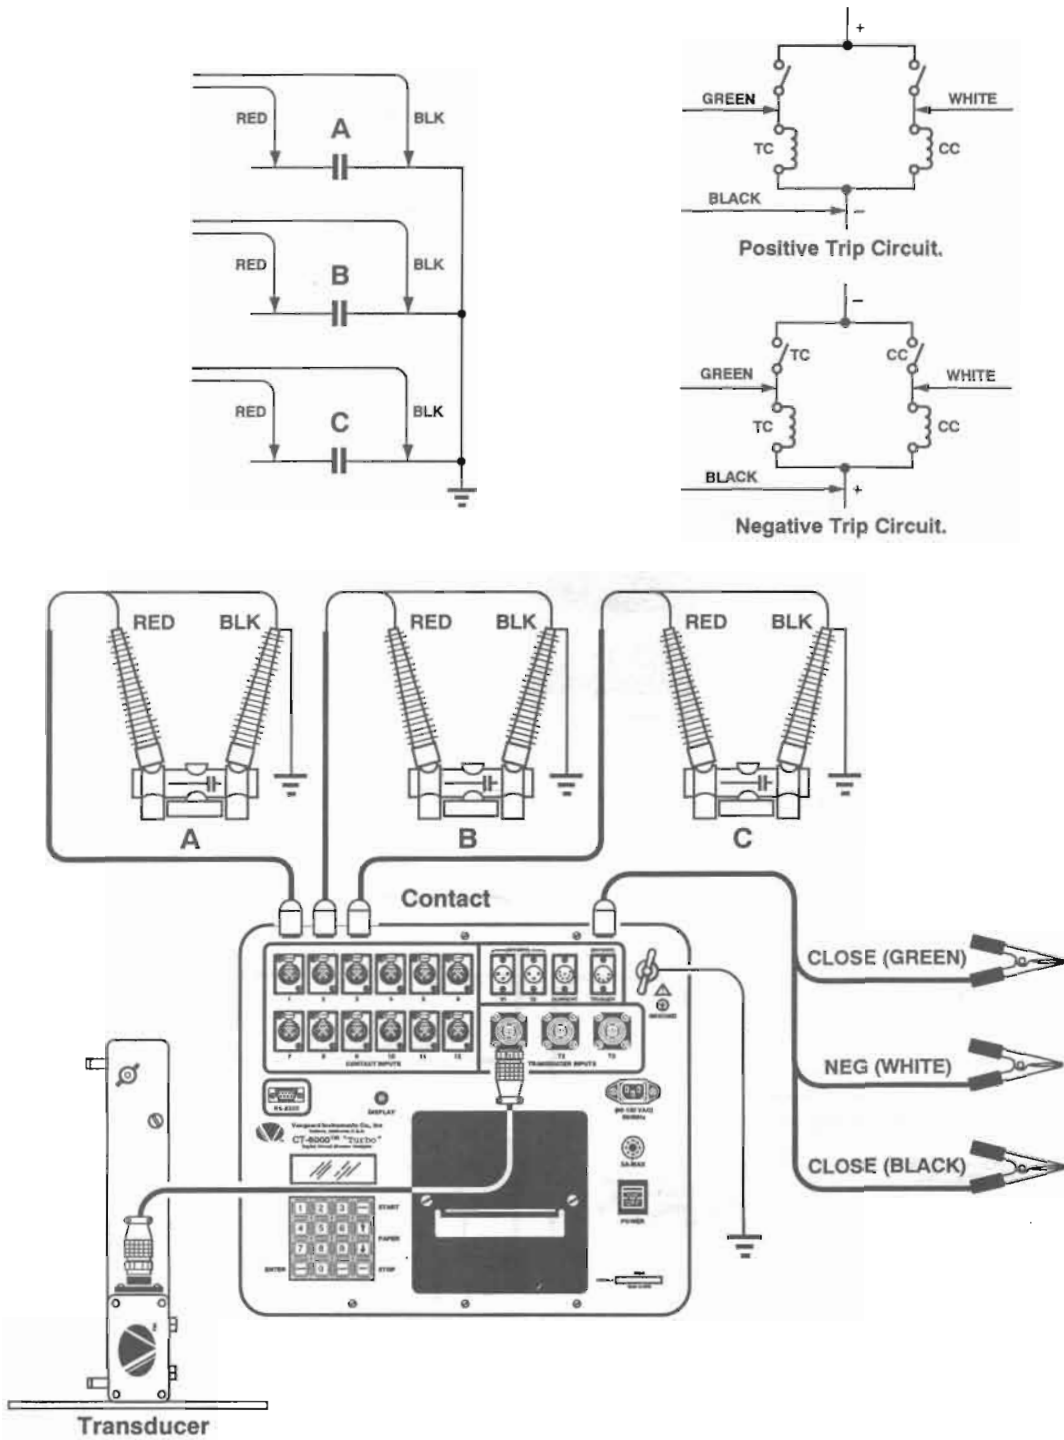
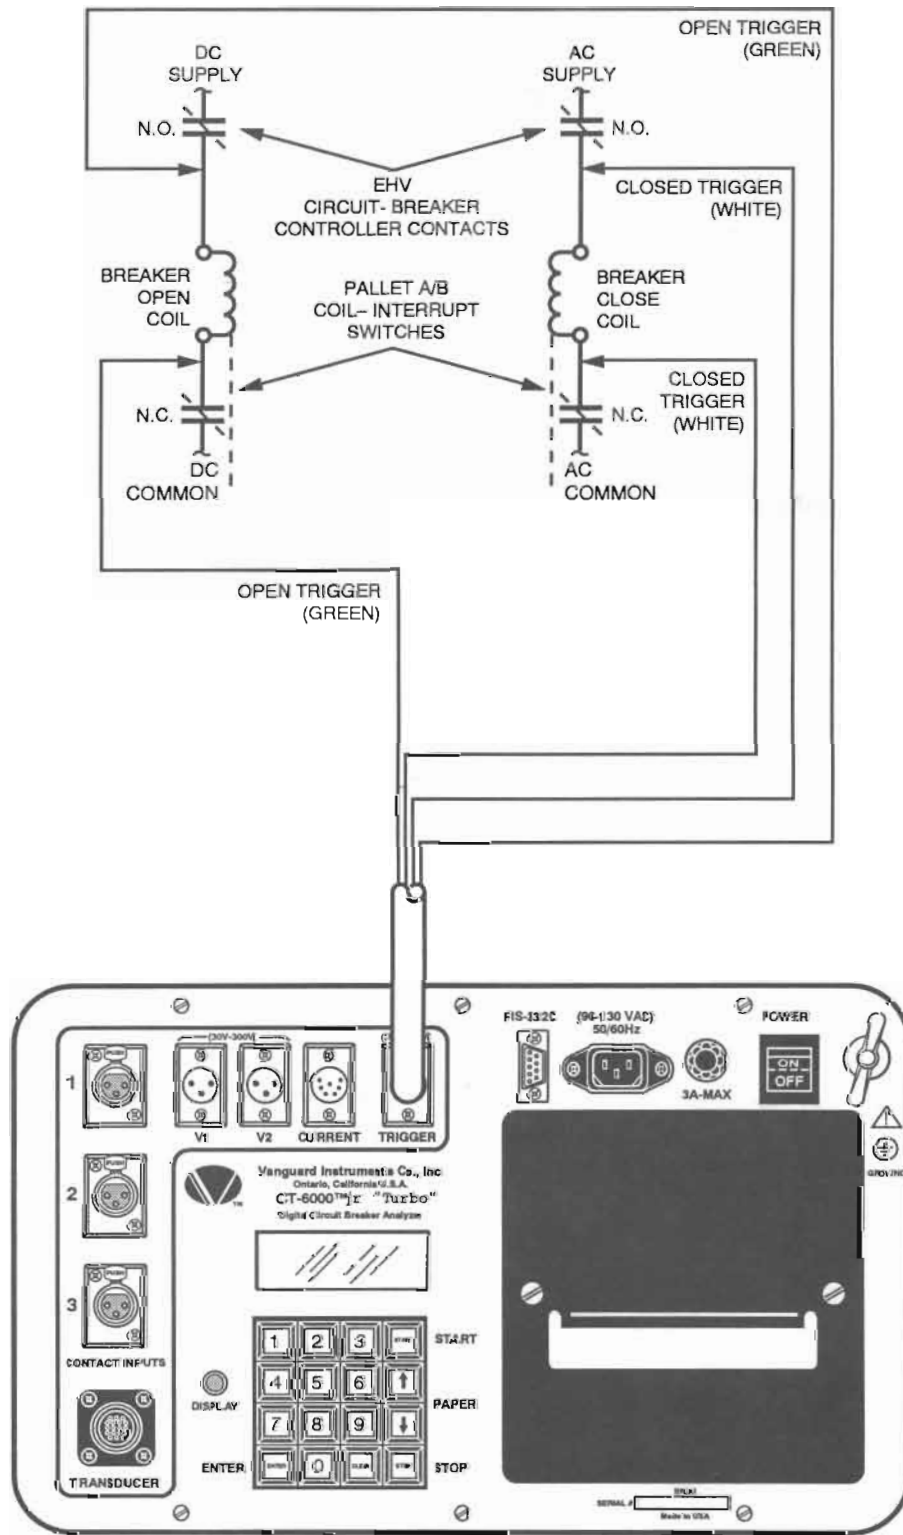

Figure 2A. Typical Timer Hookup
Figure 3. Timer Hookup with DC-Trip and AC-Close Circuits
8.1 The Timer must be cable-connected to the breaker before testing. Figure 2A shows a typical hookup (other breaker types may require other hookups). Carefully note the breaker's configuration before making a hookup (i.e., plan tests to ensure there is no hazard). Proceed with the following steps:
- b. If contact-travel data is needed, install Travel Transducer on circuit breaker and connect cable to Timer (see figure 2A).
- c. Connect dry-contact cables (see figures 2A & 2B).
- d. Connect trigger cables. (See figure 2A for typical positive-trip or negative-trip breaker hookup.) See figure 3 for a dc-trip/ac-close trigger hookup.
Figure 2A shows a trigger hookup for a breaker having "positive-trip" wiring (i.e., applying station power supply's positive voltage to trip or close breakers). For "negative-trip" wiring, the trigger hookup is similar, except that negative station voltage is used to trip or close breakers (i.e., trigger common is connected to the station's power-supply positive voltage).
For breakers that use dc voltage to operate the open coil and ac to operate the close coil, contact VIC for special trigger leads. This trigger set consists of four leads: 2 leads are for close-trigger and 2 are for open-trigger voltage input. These trigger leads connect across the breaker's open and close operate coils (see figure 3).